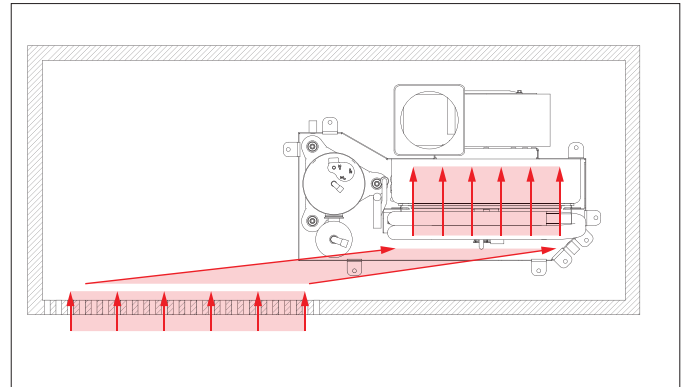

Fig.8 Mount air inlet grille offset.
- The air inlet grille should be mounted offset so that the air flowing in does not flow directly into the evaporator inlet. This enables the intake noises from the fan to be considerably reduced. See Fig.8.